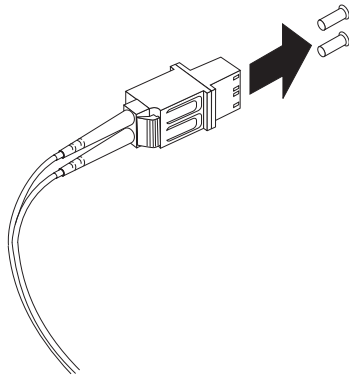

Figure 24. Removing the LC-SC cable adapter protective caps
3. Remove the two protective caps from the LC connector end of the LC-SC cable, as shown in Figure 24. Save the protective caps for future use.